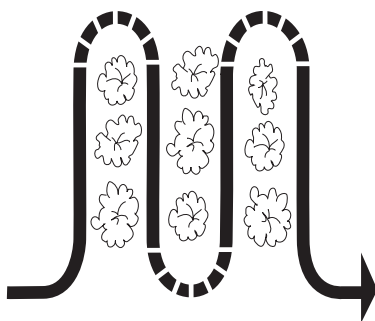

Figure 14
- When cultivating (breaking up the surface soil around the plants to destroy weeds, see Figure 14), adjust the tines to dig only 1" to 2" deep. Using the shallow tilling depth helps prevent injury to the plants whose roots often grow close to the surface. If needed, lift up on the handlebars slightly to prevent the tines from digging too deeply. (Cultivating on a regular basis not only eliminates weeds, it also loosens and aerates the soil for better moisture absorption and faster plant growth.) Watering the garden area a few days prior to tilling will make tilling easier, as will letting the newly worked soil set for a day or two before making a final, deep tilling pass.